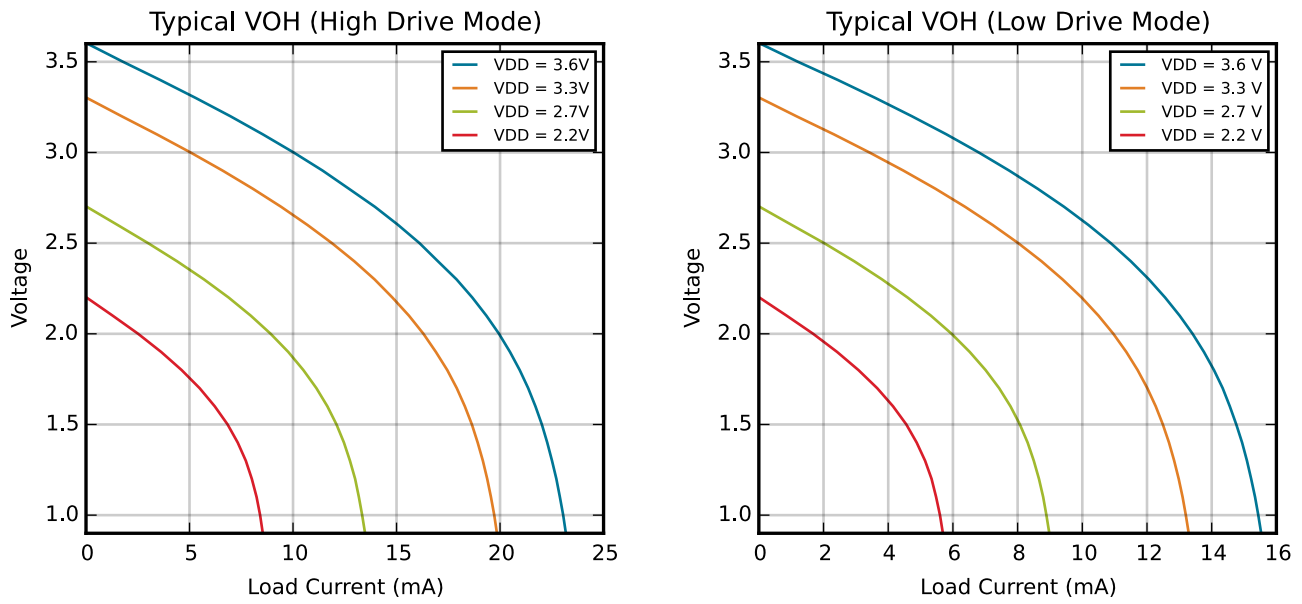
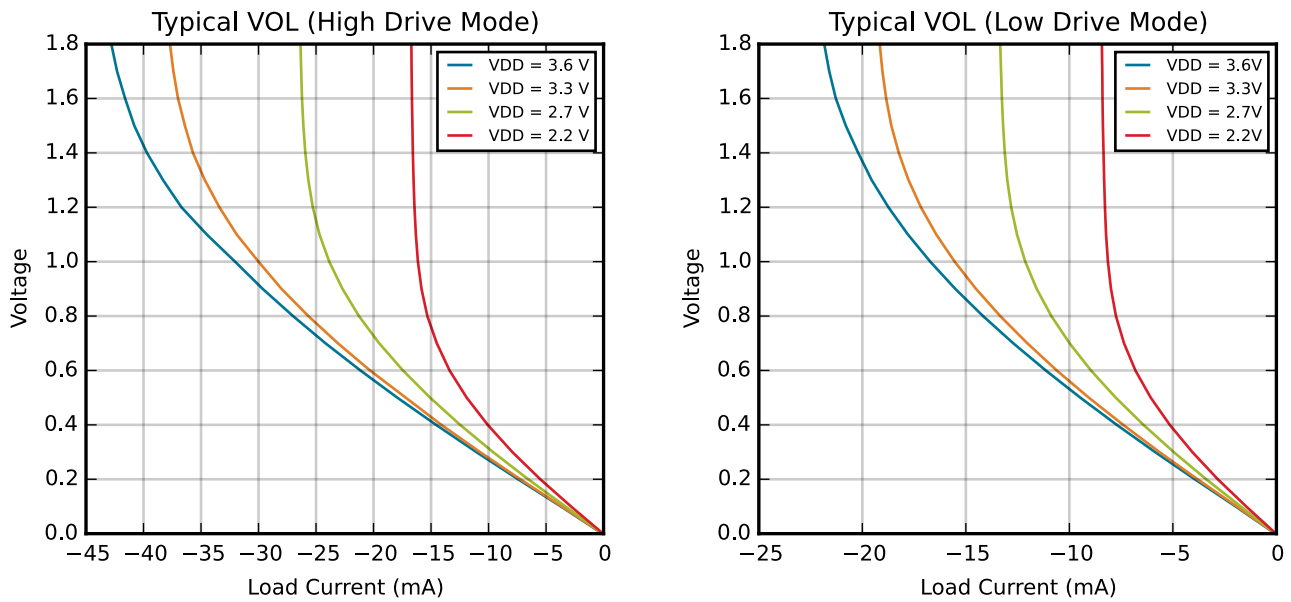

Figure 4.6. Typical  $V_{OH}$  Curves
Figure 4.7. Typical  $V_{OL}$  Curves
1. See Figure 4.6 Typical VOH Curves on page 33 and Figure 4.7 Typical VOL Curves on page 33 for more information.